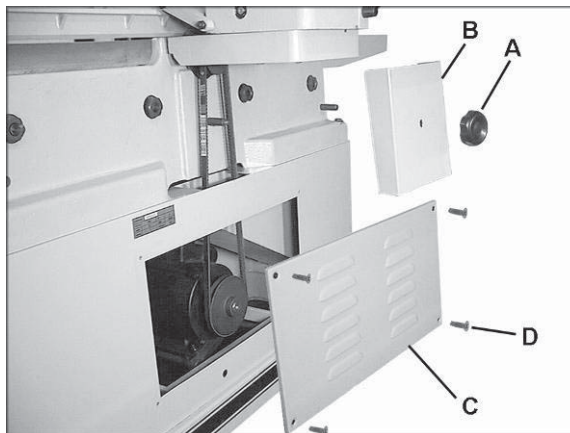

Figure 11
1. Unscrew the knob (A, Figure 11) and remove the belt guard (B, Figure 11).
2. Remove the rear panel (C, Figure 11) by unscrewing the four flat head screws (D, Figure 11) with a cross-point screwdriver.
2. Remove the rear panel (C, Figure 11) by removing the four flat head screws with a cross-point screwdriver.
5. Re-install rear panel and belt guard (Figure 11).